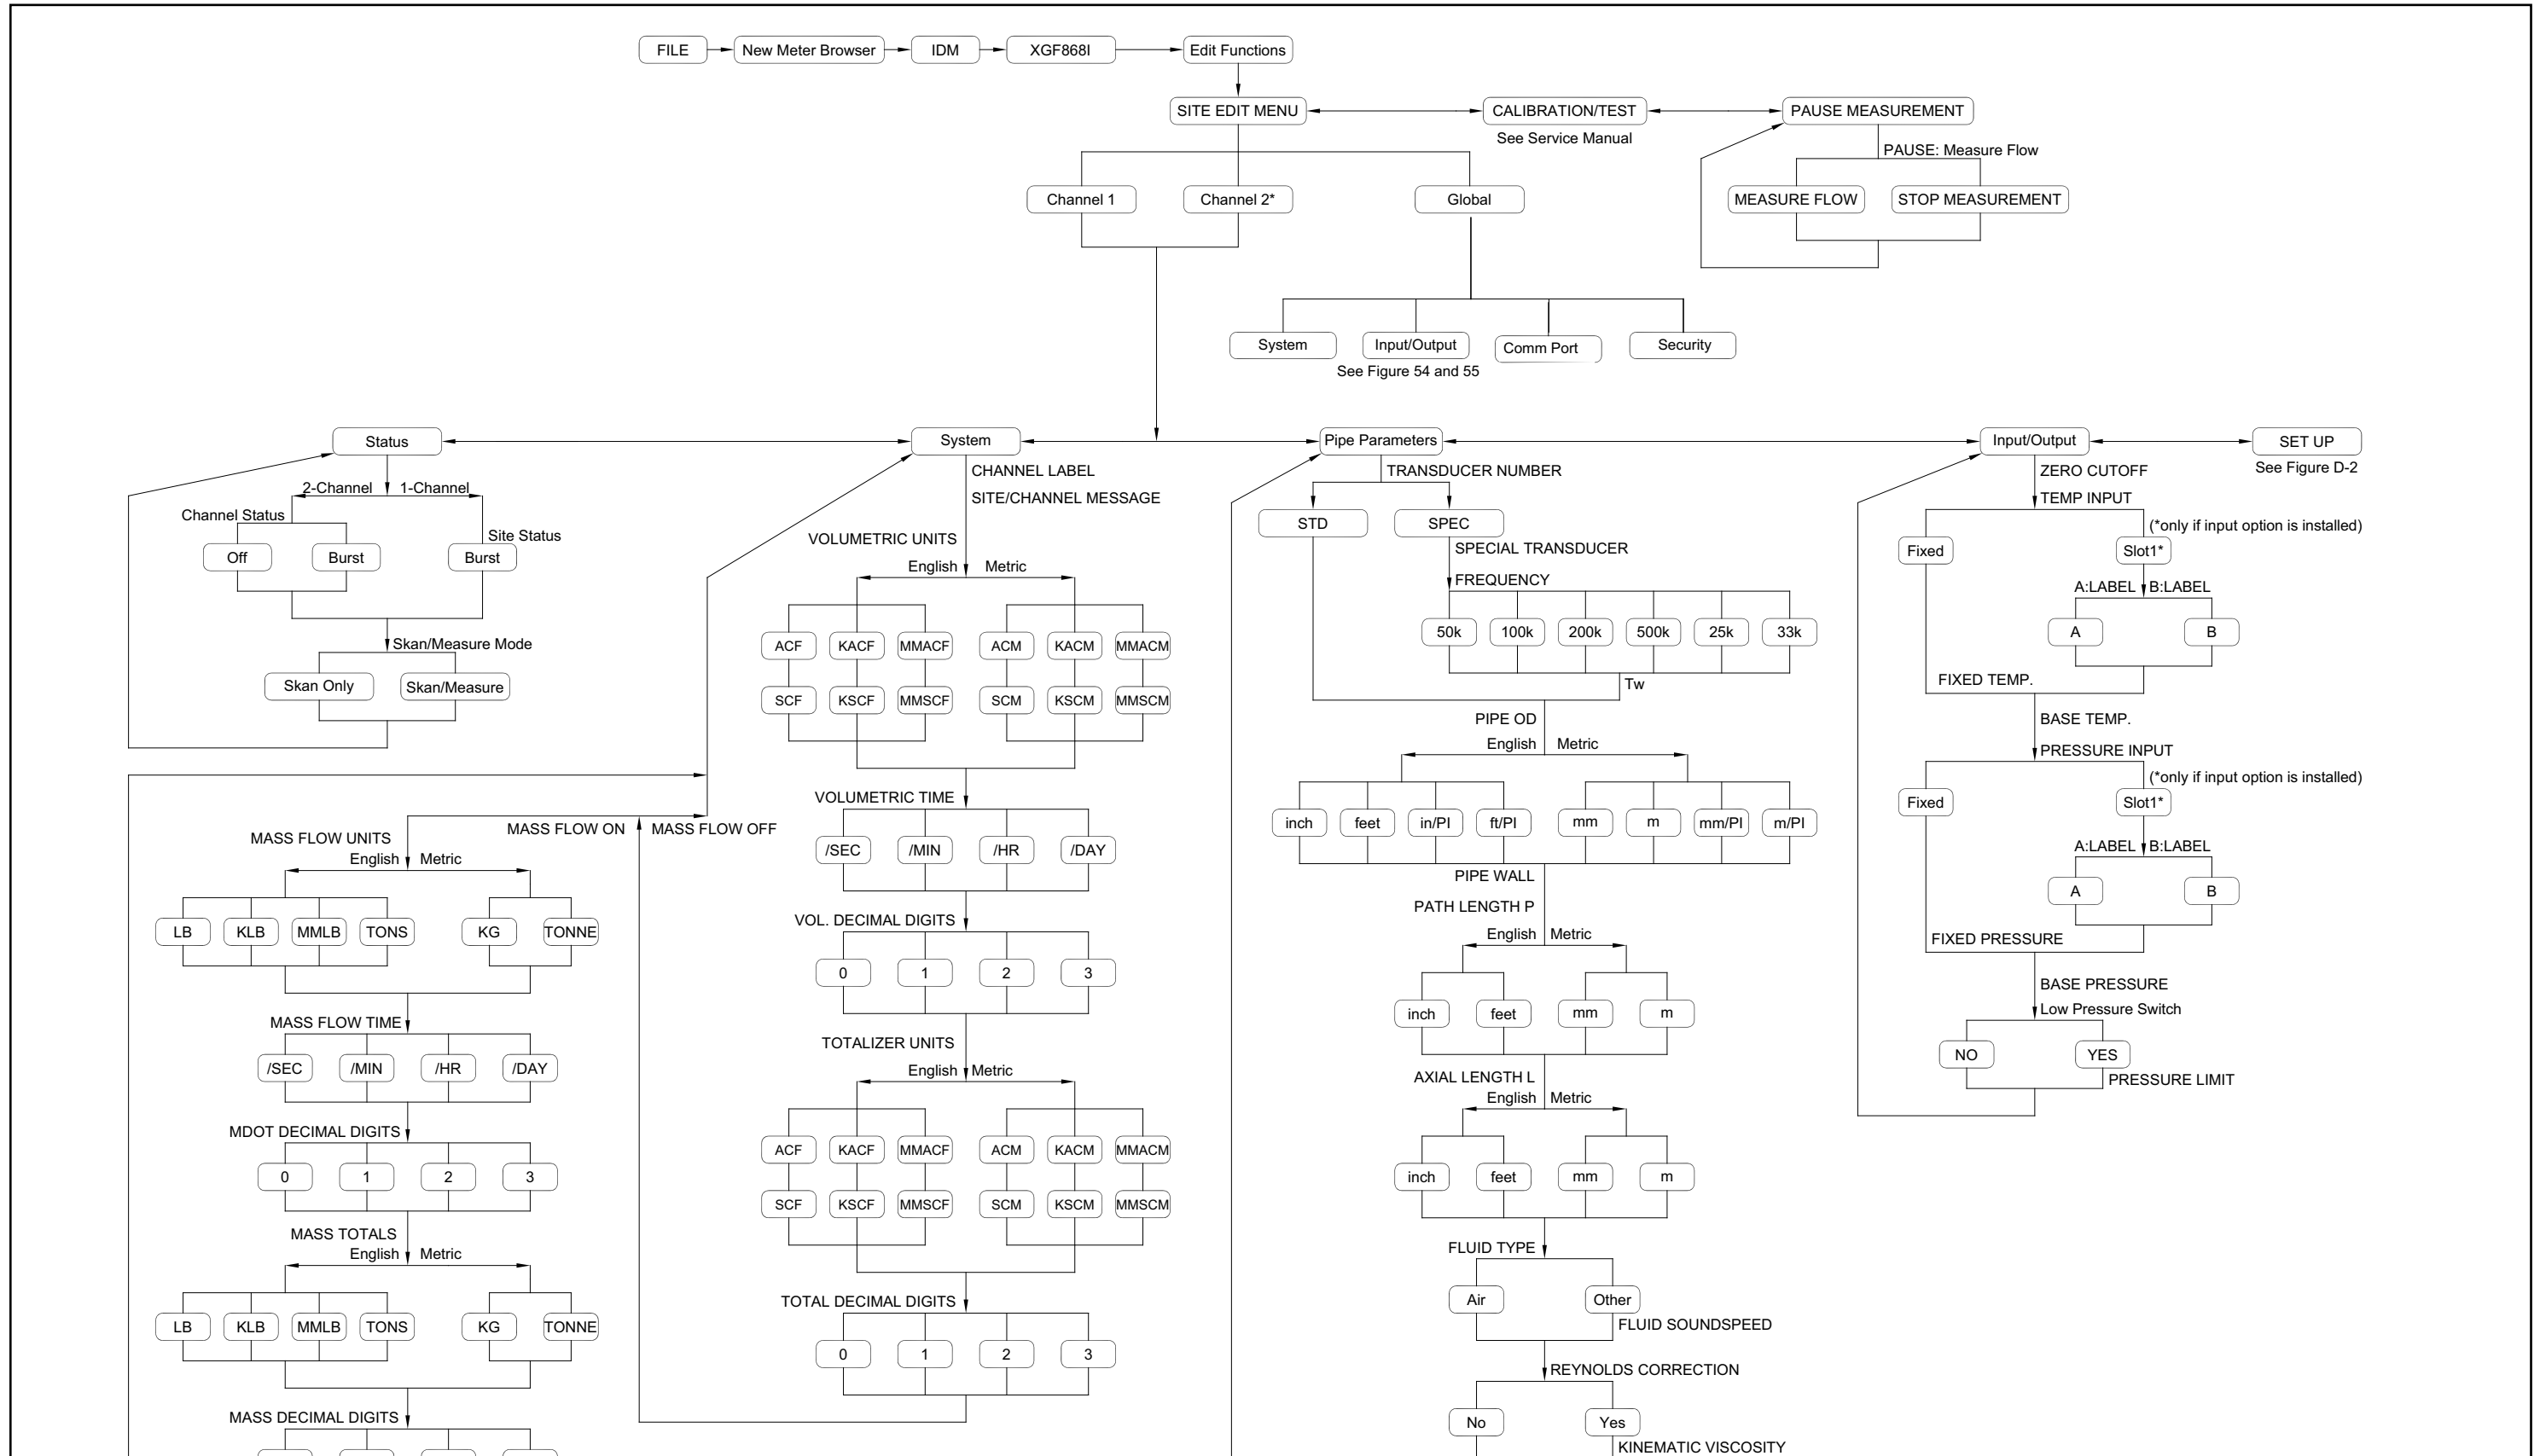

Figure 55: PanaView PROG > CHx > ACTIV, SYSTM, PIPE & I/O Menus
- Figure 55, “PanaView PROG > CHx > ACTIV, SYSTM, PIPE & I/O Menus,” on page 109